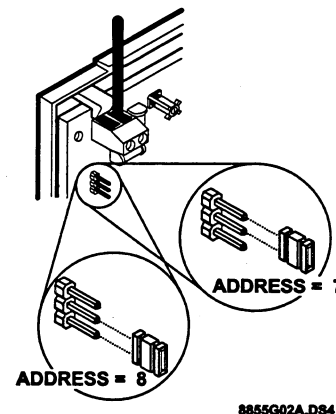

Figure 7. Setting the Address
1. Select an address (7 or 8) by setting the Address Jumper to 7 or 8 (see Figure 7).